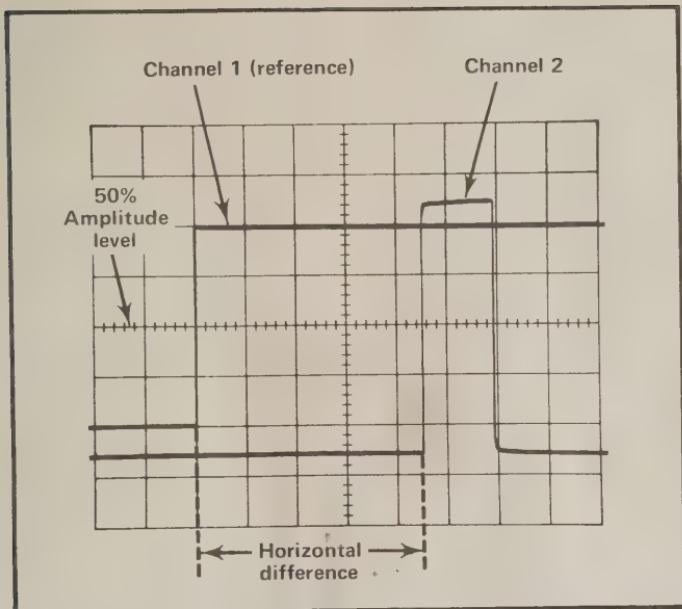

Fig. 6. Measuring time difference between two pulses.
11. Measure the horizontal difference between the Channel 1 waveform and the Channel 2 waveform (see Fig. 6).
Example. Assume that the TIME/DIV switch is set to $50\ \mu\text{s}$, and the horizontal difference between waveforms is 4.5 divisions (see Fig. 6).